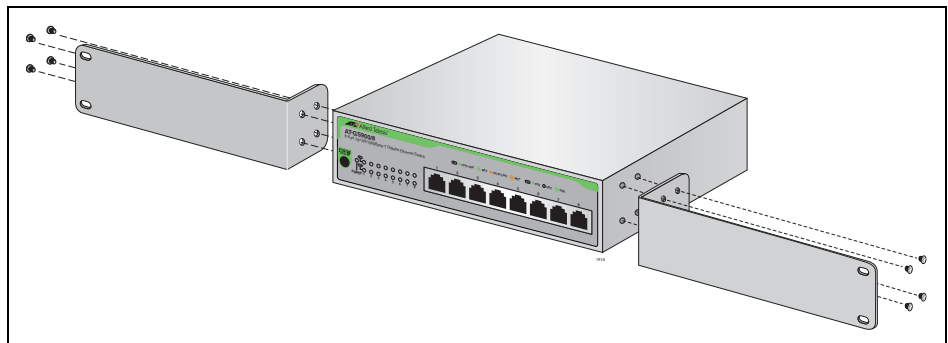

Figure 10. Attaching Rack Mounting Brackets
4. Attach the two rackmounting brackets (provided) to the sides of the switch using the eight flathead Phillips screws (provided), as illustrated in Figure 10.